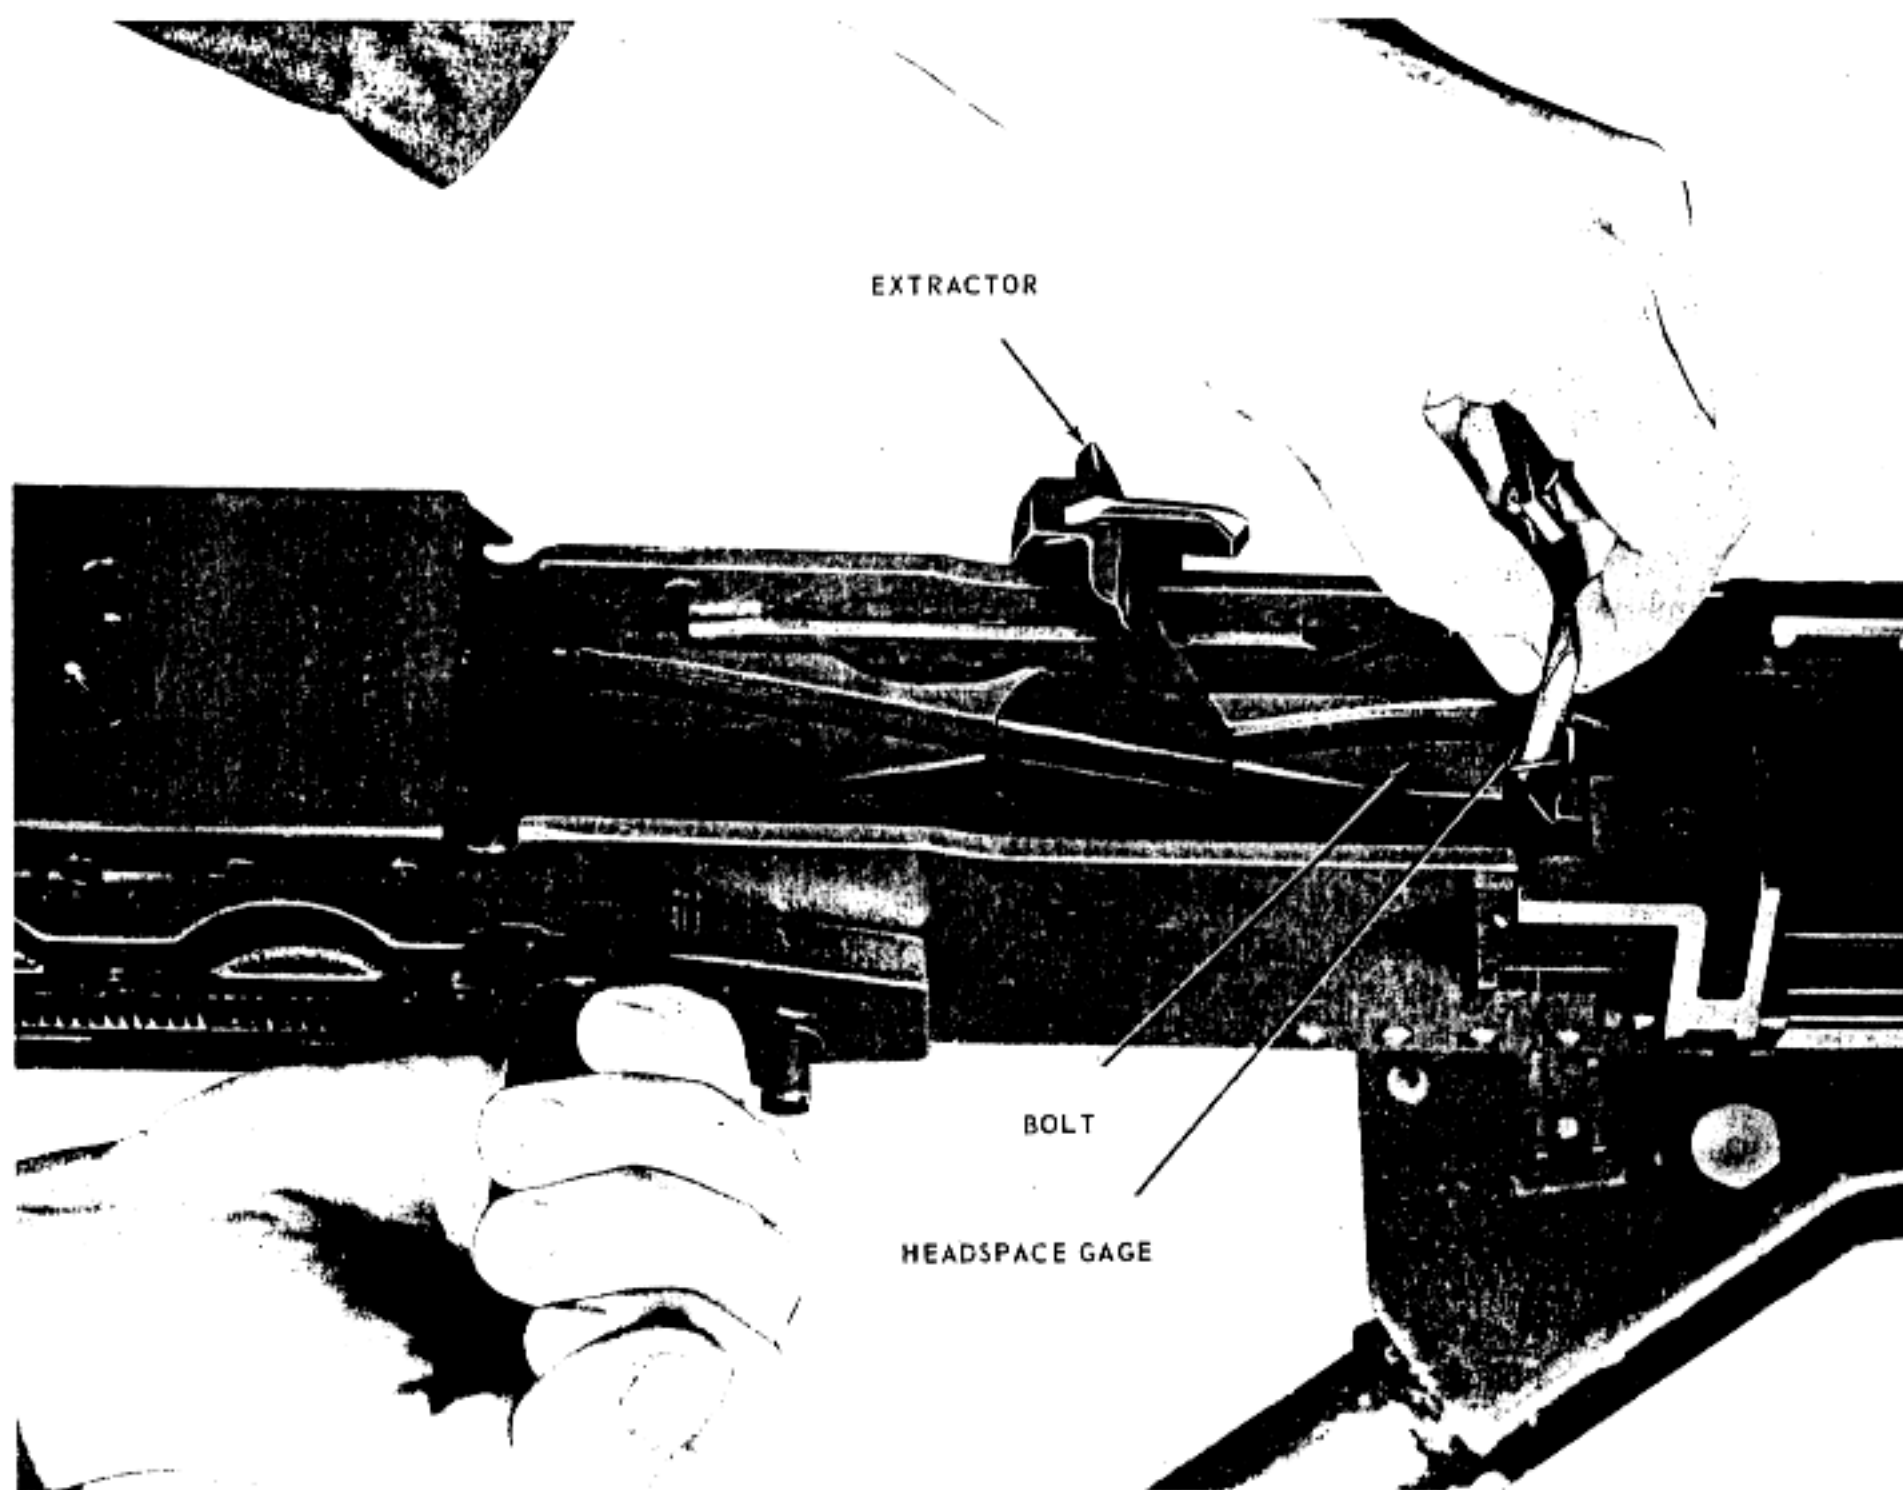

Figure 81. Inserting the headspace gage.
(3) Pull the retracting slide handle back until the barrel extension is about one-sixteenth of an inch from the trunnion block. This will insure that the locking surfaces of the breech lock and the bolt are in proper contact. This prevents the driving spring group and weight of the parts from giving a false determination (fig 81).
(4) First, insert the GO end of the headspace gage in the T-slot, between the face of the bolt and the rear end of the barrel. If the GO end of the gage enters freely down to the center ring of the gage, then attempt to insert the NO GO end of the gage. If the GO end enters, and the NO GO end does not enter, correct headspace is set.
(5) If the GO end of the gage does not enter freely, headspace is too tight. When this condition exists the barrel must be unscrewed one click (notch) at a time (checking with the gage after each click), until the GO end of the gage enters freely. To complete the adjustment, attempt to